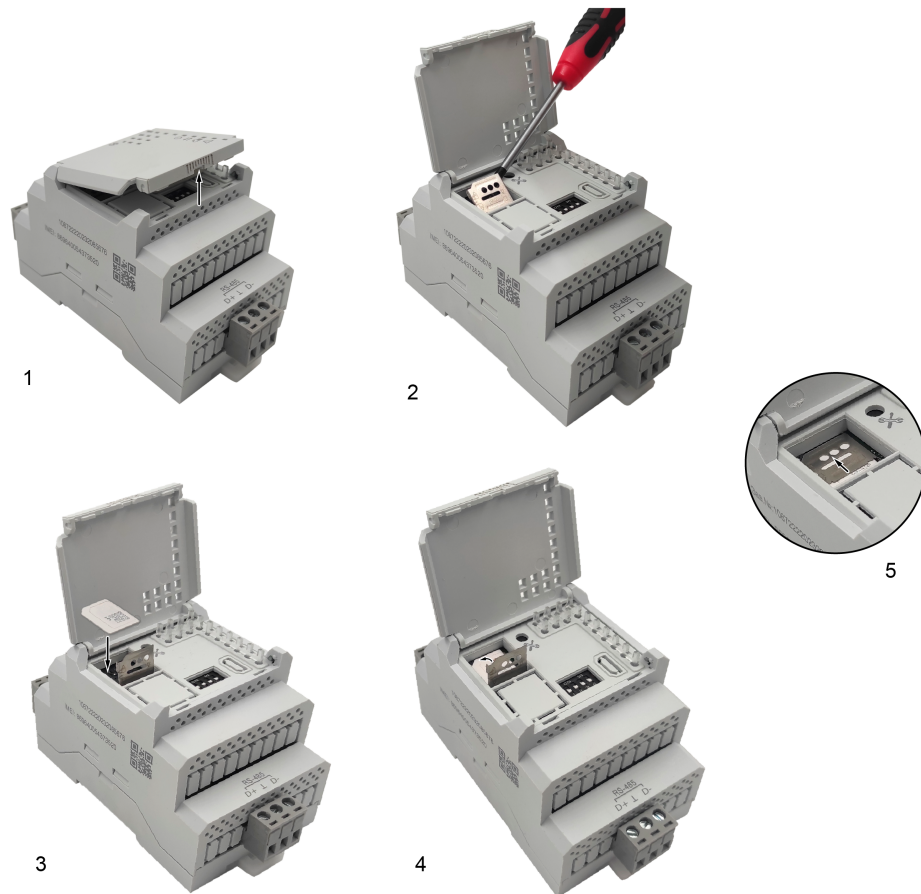

Fig. 7.1 SIM card installation
2. Open the front cover (see Fig. 7.1, 1).
3. Push the SIM card holder in the direction marked by arrow  (see Fig. 7.1, 2). Lift the holder.
4. Insert the SIM card into the tray with the contacts facing down and the corner cut mark away from you (see Fig. 7.1, 3).
5. Lower the holder (see Fig. 7.1, 4).
6. Push the holder in to secure the SIM card (see Fig. 7.1, 5).